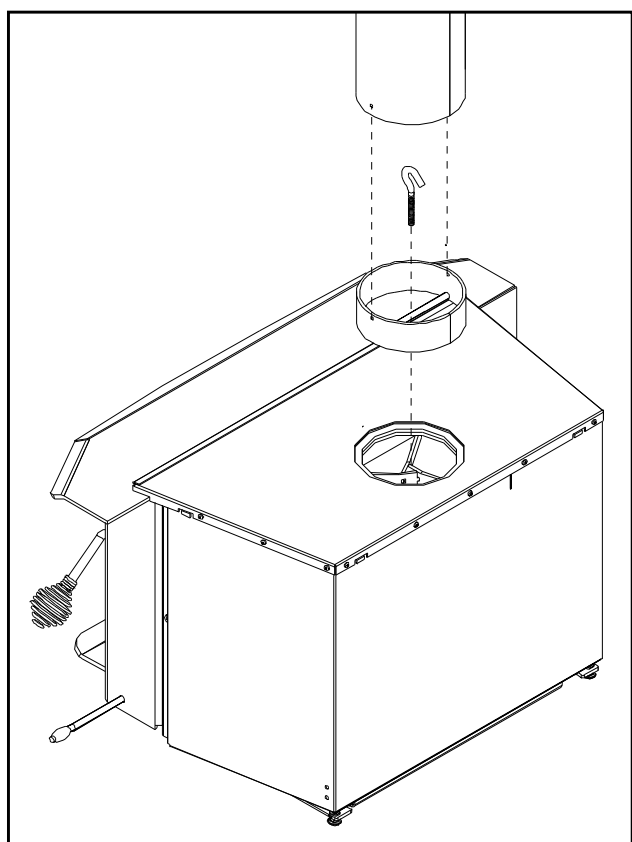
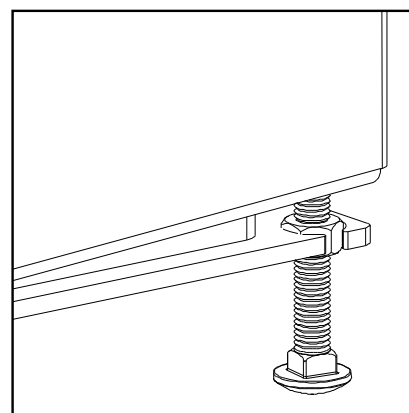

Figure 32: Attaching removable flue.
Figure 33: Leveling leg.
- f) Using the hook/bolt, grab the flue collar by the rod through the center and pull it into place (see Figure 32).
- h) Re-install ceramic baffles and the first two (2) front secondary air tube (see CERAMIC BAFFLE INSTALLATION).
3. There are two (2) leveling legs (shown in Figure 33), one on each side, at the back of the unit. Adjust the legs using a $\frac{9}{16}$ " wrench to ensure the unit is stable.